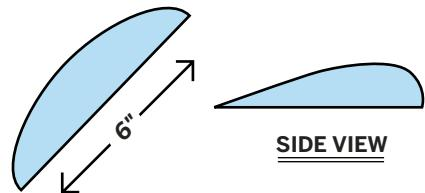

Fig. 2
2. Cut 2 foam pieces into oval shapes about 6"×2" with 1 side rising, as shown in Figure 2. The rising shape should resemble the side view of an airplane wing. Place the oval foam pieces on the leading edges of the boomerang and secure them with tape. The foam creates a curved shape on the boomerang wing, causing air to move faster across its top area than the bottom surface. This will produce lift for the boomerang.